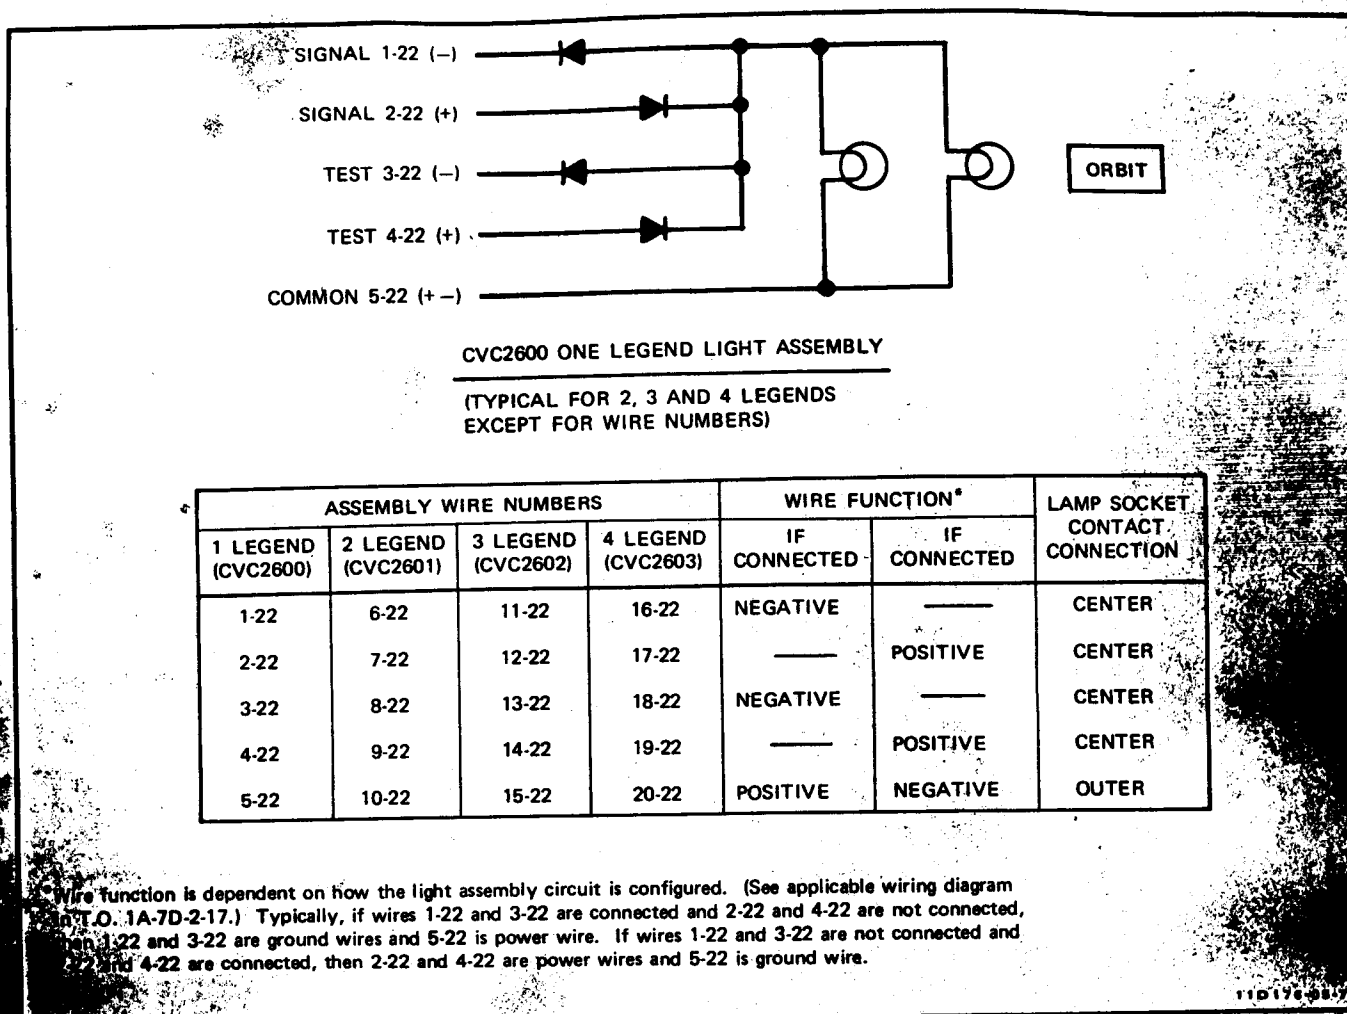

Figure 9-16. CVC2600 Series Light Assembly Wiring Data
11. Indicator lights do not come on.	<ul style="list-style-type: none"> <li>a. Check circuit breaker CB363. If circuit breaker is closed, replace warning and advisory lights dimming panel (paragraph 9-41 or 9-43A). If circuit breaker is not closed, perform step b.</li> <li>b. Close circuit breaker CB363. If circuit breaker will not remain closed, check for defective circuit breaker.</li> <li>c. Check for defective wiring in light circuit. If indicator is a CVC2600 series legend type light assembly, check light in accordance with figure 9-16.</li> </ul>